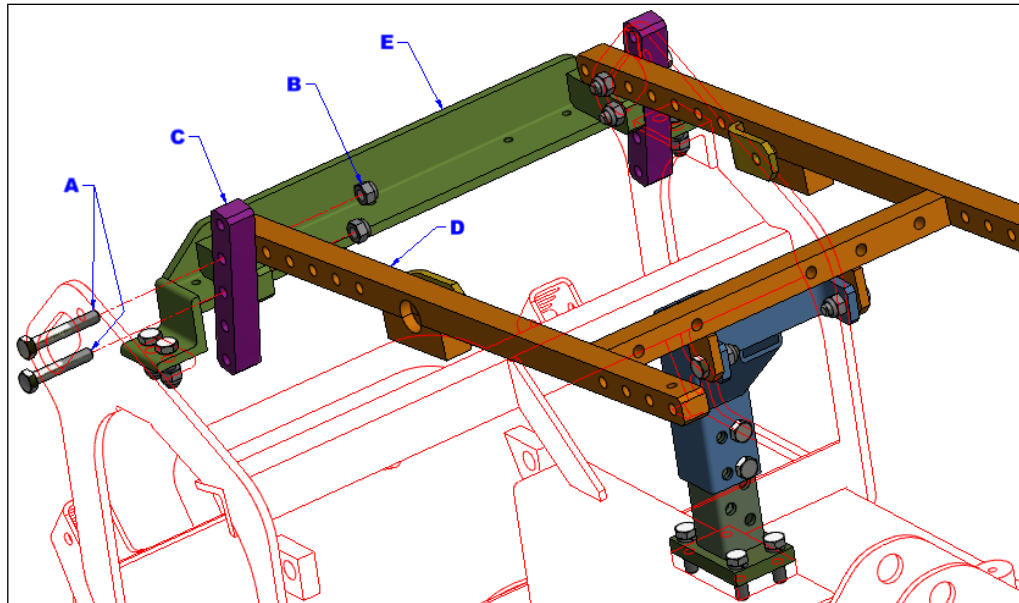

Figure 5-B: Rear floor-to-seat height.
You can also change the rear floor-to-seat height. This adjustment is made under the back cover. Using a $\frac{1}{2}$ in. or 13 mm wrench, unscrew the (A) bolts and (B) nuts and adjust adjustment rod (C) with frame (D) and the base of bracket (E) to the desired height (see Figure 5-B).